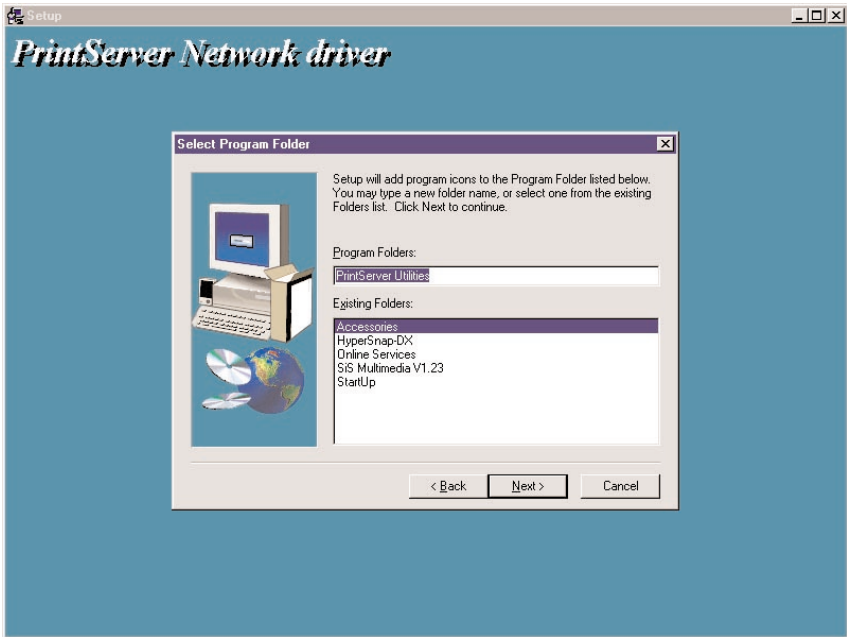

Figure 4-20. Program folders screen.
5. Click on the **Browse** button to view the available destination folders. Select the destination folder where the program icons will be added, then click on the **Next** button to save the changes. Figure 4-20 appears.
- Click on the **Next** button to start the installation. Click on the **Back** button in Figure 4-20 to go back to the previous screen. Click on the **Cancel** button to cancel your changes.